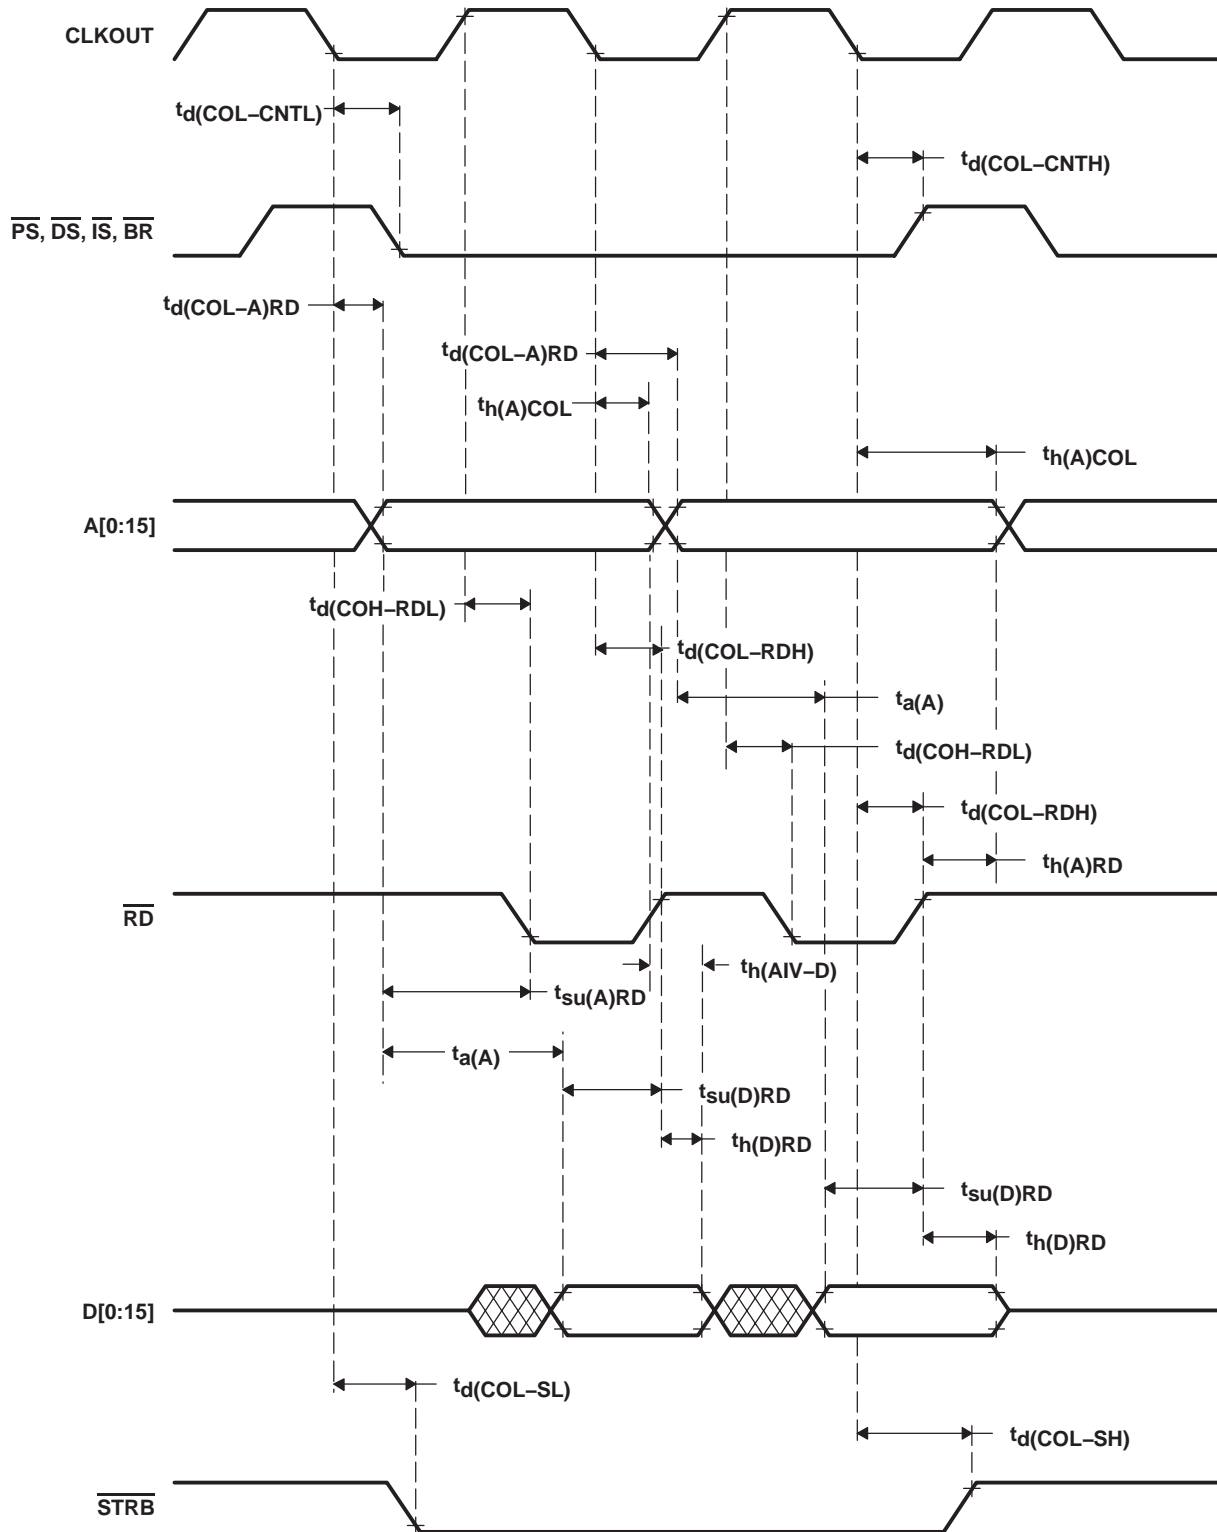

Figure 37. Memory Interface Read/Read Timings
**switching characteristics over recommended operating conditions for an external memory interface read (see Figure 37)**
**timing requirements [ $H = 0.5t_c(\text{CO})$ ] (see Figure 37)**